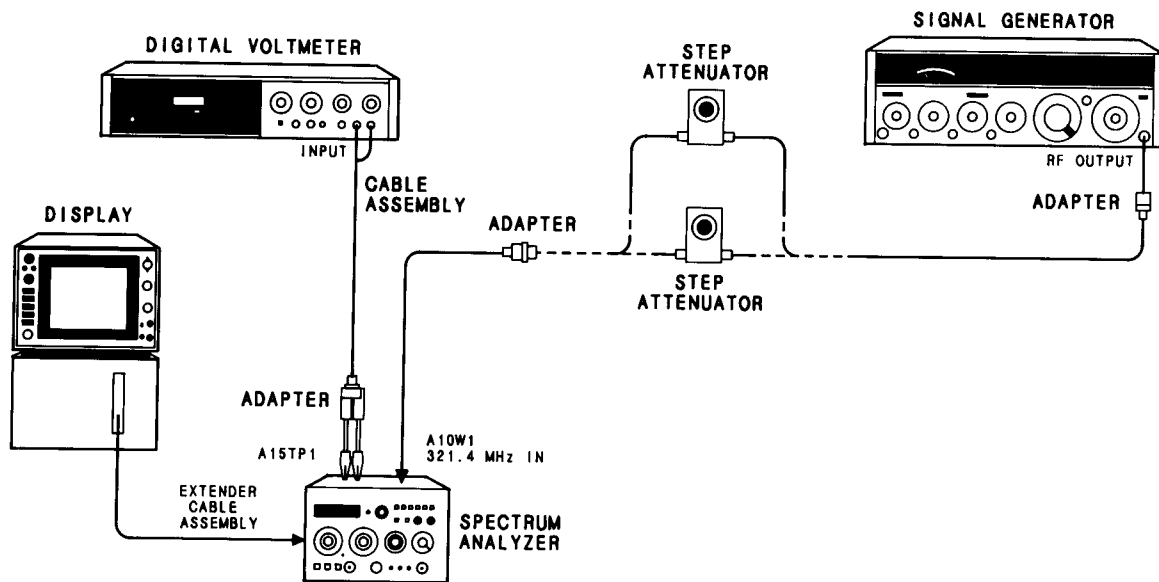

FIGURE 5-10. STEP GAIN ADJUSTMENTS TEST SETUP
2. Connect equipment as shown in Figure 5-10. Connect signal generator tuned to 321.4 MHz with approximately -30 dBm output to one side of a 1 dB/step attenuator. Connect step attenuator output to A10W1 through adapter. Tune signal generator frequency for peak amplitude on display.